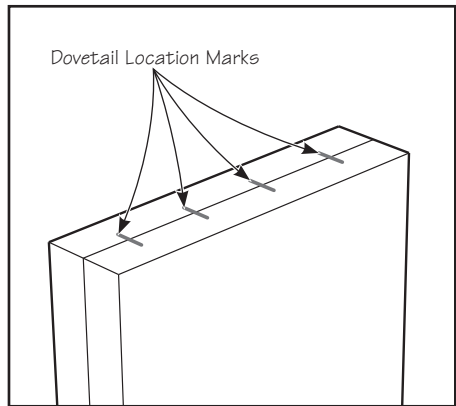

Figure 6: Mark out locations of dovetail cuts. Mark across both boards at once with a single mark at each location.
3. Mark out your dovetail spacing. The marks don't have to be perfectly square across the joint, since the significant point is where the mark crosses the outer edges of the board. The joints can be spaced very evenly if necessary, or relatively randomly, whatever the final design calls for. Since accepted practice is to have a half pin at each end, an even number of marks is required. See **Figure 6**.